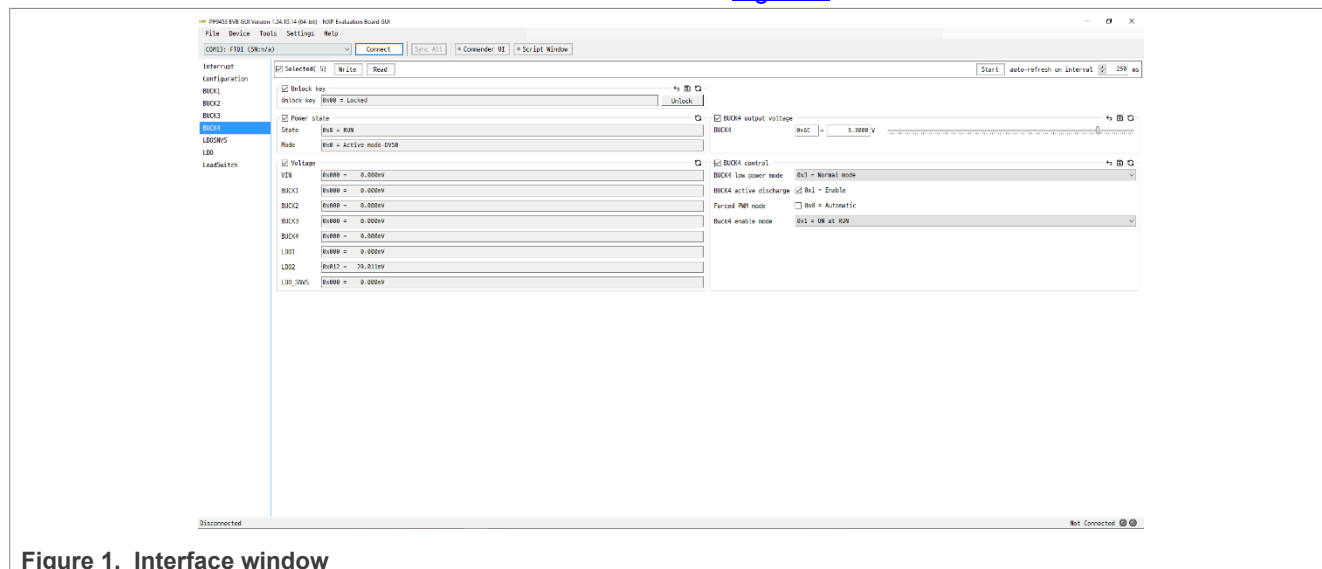

Figure 1. Interface window
- Run the file PF9453.exe. The interface window is shown in Figure 1.